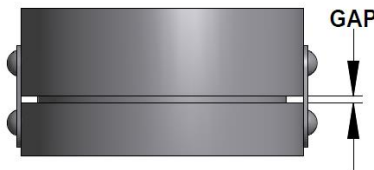

Figure 7 - Gap Inspection
WARNING: For ATLAS sizes 6" and larger, ensure that the alignment pin in the holddown fits into the tag slot of base (see Figure 5) and check the gap (see Figure 7). Fragmentation or leaking can occur if this feature is not aligned properly.
10. Check gap between base and holddown. The gap must be the same size on all sides of the assembly. This can be assured by measuring the distance between the holddown and base at various places around the circumference of the assembly. Adjust pre-assembly screws if necessary to provide an even gap (See Figure 7).